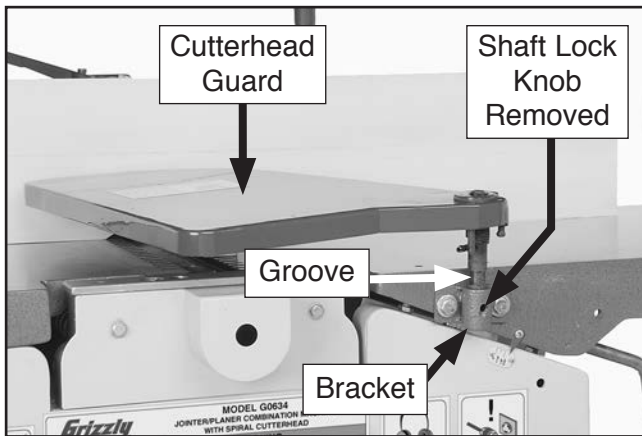

Figure 21. Installing cutterhead guard.
Models G0634Z and G0634XP come fully assembled except for installation of the cutterhead guard (see **Figure 21**). The cutterhead guard helps to protect hands and fingers from the rotating cutterhead during jointing operations. The cutterhead guard **MUST** be installed before operating this machine.
1. Remove the shaft lock knob and insert the cutterhead guard shaft into the bracket hole as shown in **Figure 21**.
3. Thread the lock knob into the bracket so the threads fit into the shaft groove (see **Figure 21**), and secure the guard into place. Adjust the guard and lock knob as needed so the guard fully covers the cutterhead.